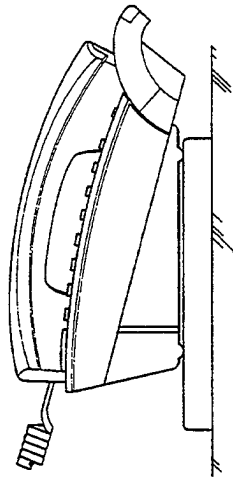

Figure 4-28 Installed Wall Mount Unit
7. When properly installed, the wall mounted Multiline Terminal looks similar to the one illustrated in Figure 4-28 Installed Wall Mount Unit.